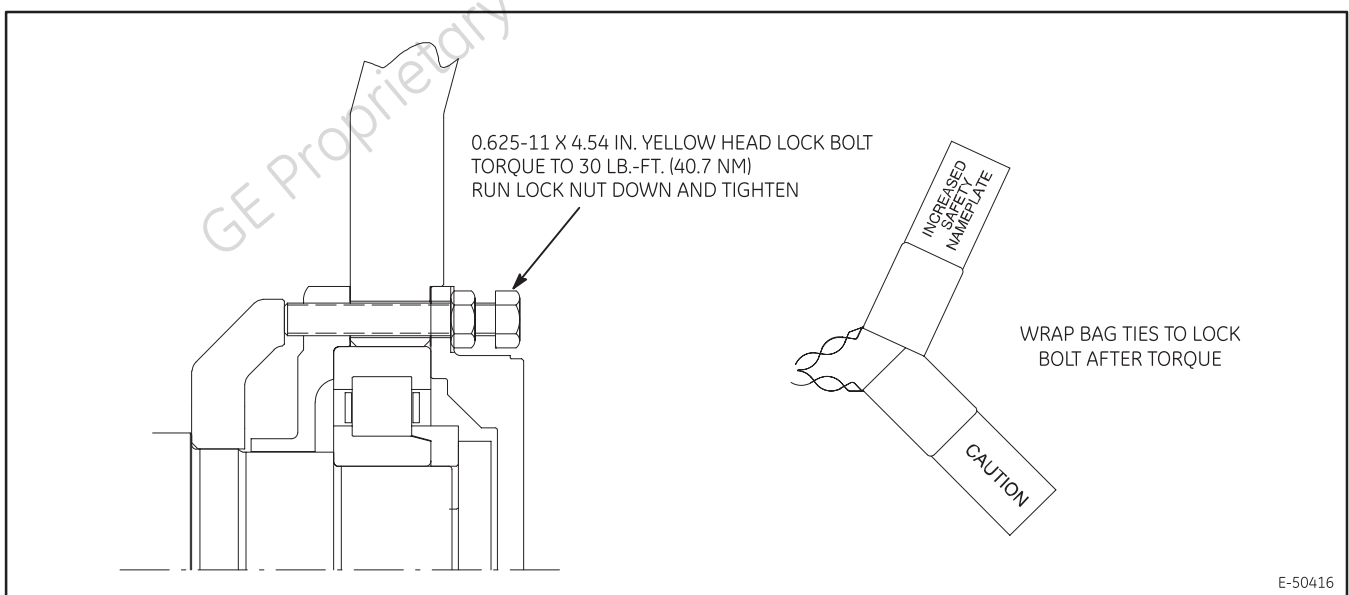

Figure 6. Rotor Lock Bolts.
2. Thread 0.625-11 x 4.54 in. lock bolts (with jam nuts threaded onto the bolts) into the bearing cap holes as shown in Figure 6 . The lock bolt heads are painted yellow to distinguish the bolts as rotor locking bolts.